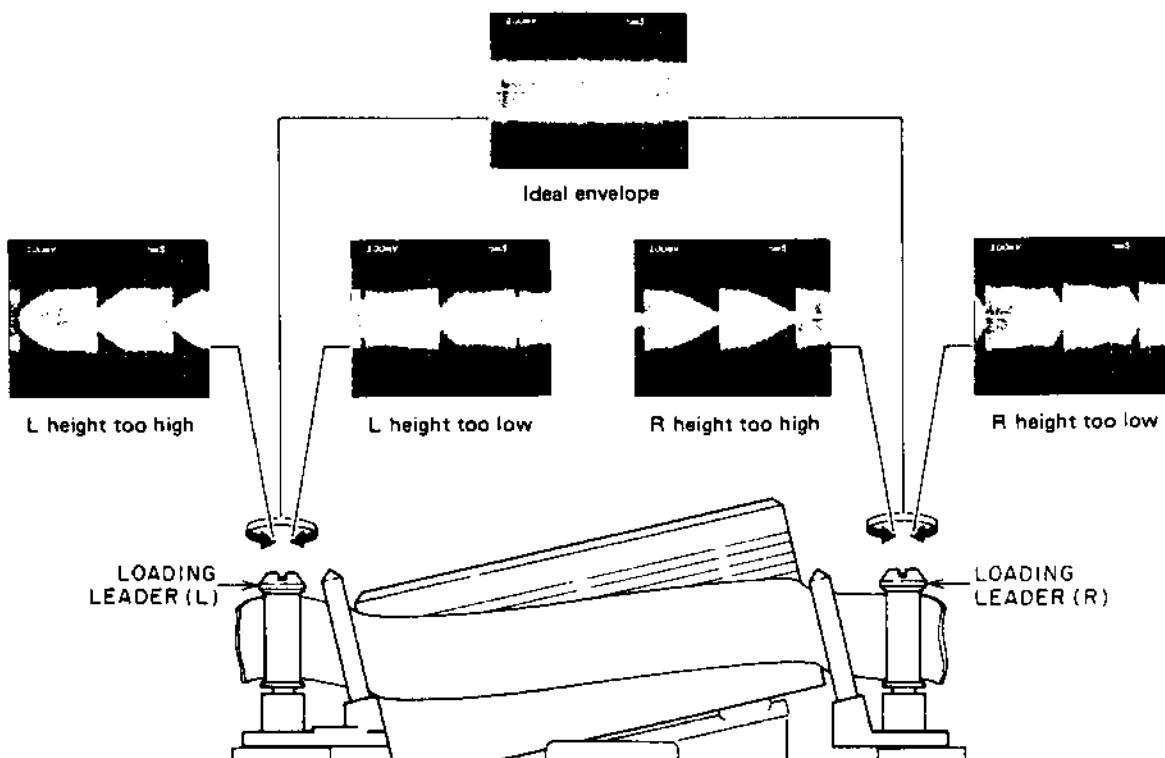

Fig. 5.10
- 4) Turn the LOADING LEADER heads with a flat head (—) screw driver to obtain flat RF envelope as ideal envelope as shown in Fig.5-10.